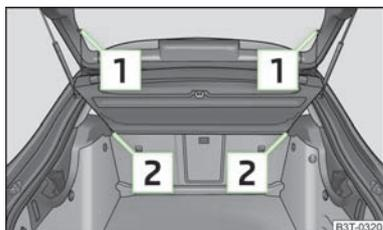

Fig. 69
- Desengate as fitas de retenção  » Fig. 69.